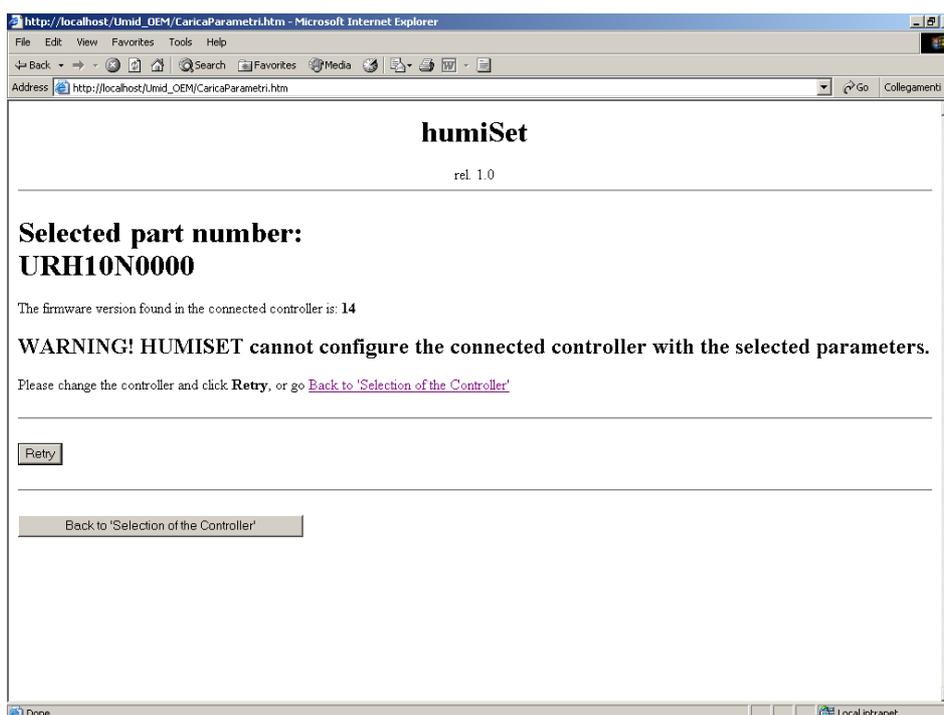

Figure 37
- If **humiSet** does not contain the required set of parameters, the following error page will be displayed (Figure 37):